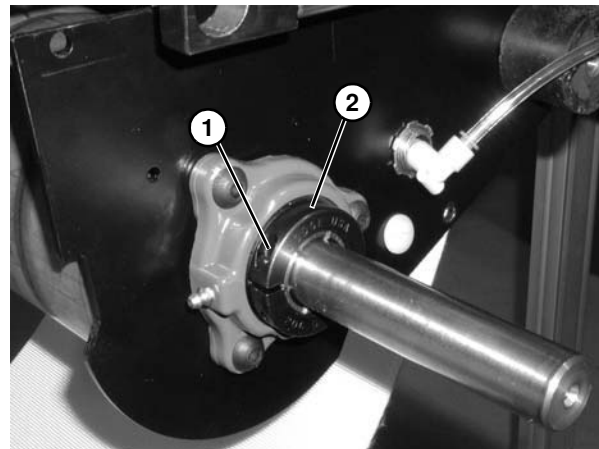

Figure 170
6. Loosen clamp screw (**Figure 170, item 1**) and remove bearing collar (**Figure 170, item 2**).